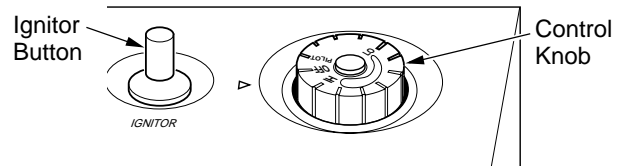

Figure 21 - Control Knob In The OFF Position
3. Turn thermostat control knob clockwise  to the OFF position (see Figure 21).
5. Turn thermostat control knob counterclockwise  to the PILOT position. Press in thermostat control knob for 5 seconds (see Figure 21).